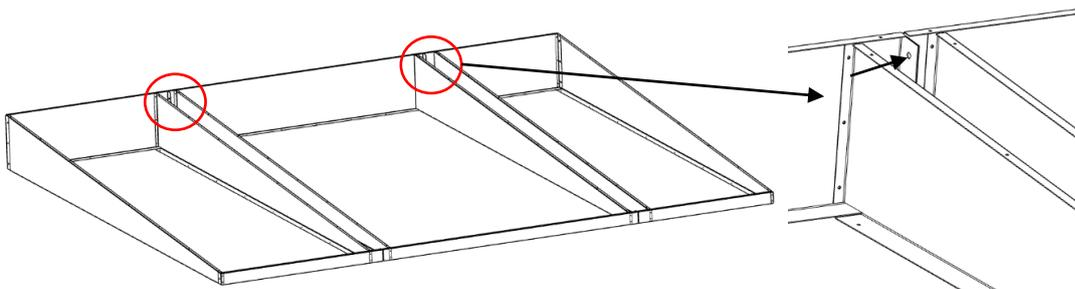

Fig. 129
4. Fix the weather roof base frames to each other using bolts (Fig. 129)